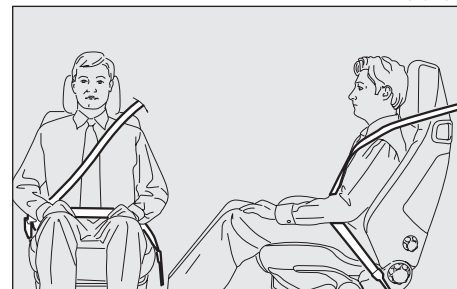

fig. 39
*The seat belt must not be twisted and should cling tightly to the body. The upper part must pass over the shoulder and diagonally across the chest. The lower part must rest across the pelvis and not across the stomach to eliminate the risk of sliding forwards (fig. 39). Do not use devices (clips, stoppers, etc.) which keep the belts away from the body.*